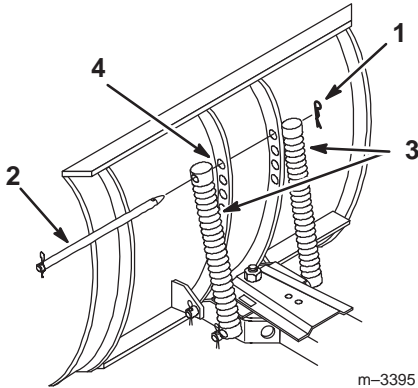

Figure 17
The blade trip springs can be mounted in four positions. The top hole provides the greatest scraping pressure and the bottom hole provides the least scraping pressure (Fig. 17).
1. Remove the hairpin cotter and slide the rod from the blade and springs (Fig. 17).
2. Slide the rod through the springs and the new hole position in the blade (Fig. 17).